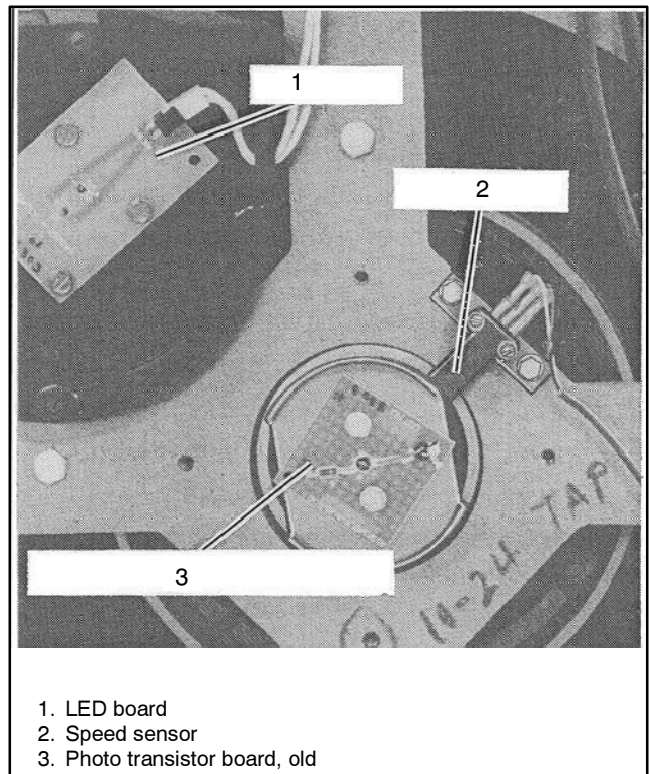

Figure 2 LED Board and Housing
3. Remove LED board and housing and disconnect speed sensor leads (if end bracket is being removed). See Figure 2.